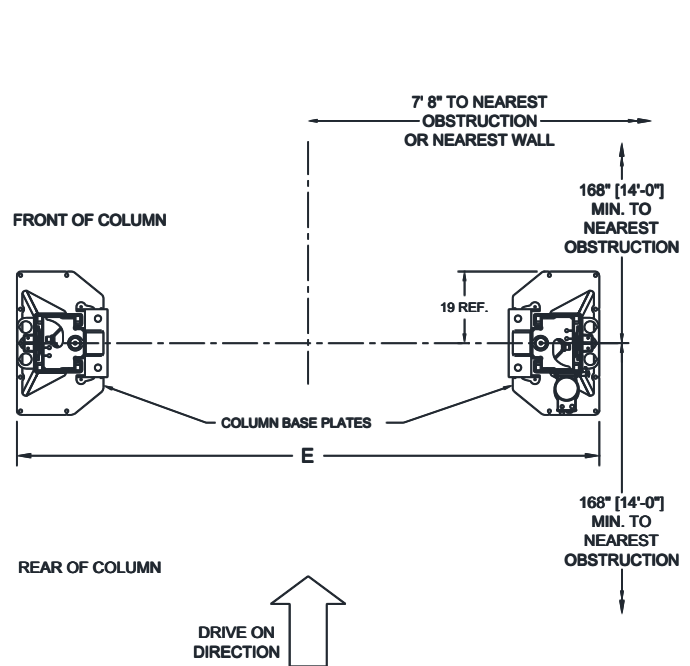

Fig. 1b- Service Bay Layout
- 2) See **Fig 1** for the lift layout. Determine which side of the bay that the power unit will be on and identify the column assembly with the power unit bracket. Layout the service bay according to the architect's plans or owner's instructions (**see Fig. 1b**). **Failure to install in this orientation can result in personal and property damage.** Be certain that the proper conditions exist, see pg. 3.